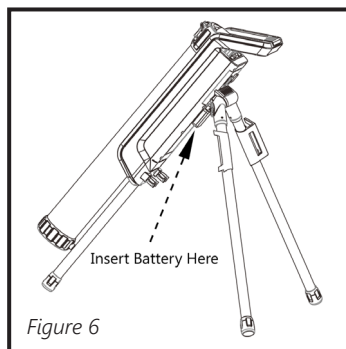
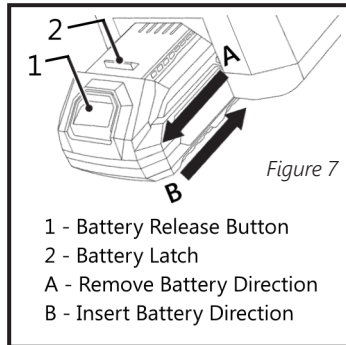

Figure 6
Figure 7
- Install the battery into the light on the underside of the lamp housing (See Figure 6 to refer to the location of the battery socket):
- Align the tabs on the battery with the guides on the bottom of the light (Figure 6), and slide the the battery unit into place in the direction of Arrow B (Figure 7) until the battery clicks into place. (Note: You will be inserting the battery upward toward the handle.
- Make sure the Battery latch (Figure 7) has "clicked" in to place.
- To remove the battery from the unit, press the Battery Release and remove the battery in the direction of Arrow A in Figure 7.